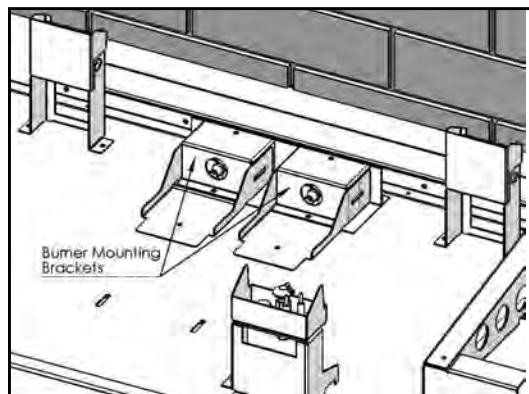

Figure 71: Burner Mounting Brackets
1. In the bottom rear of the firebox there are two (2) gas orifices in a housing that facilitate the air shutter mechanisms and the Burner Mounting Brackets are above them (See Figure 71). There are two (2) mixing tubes underneath the back of the burner (see Figure 72). Lift the burner into the firebox with the back of the burner tilted downward. Keep the burner high enough at the front to clear the pilot assembly. Line up the mixing tubes with the holes in the burner mounting brackets and slowly lower the front of the burner over the pilot assembly (see Figure 73).